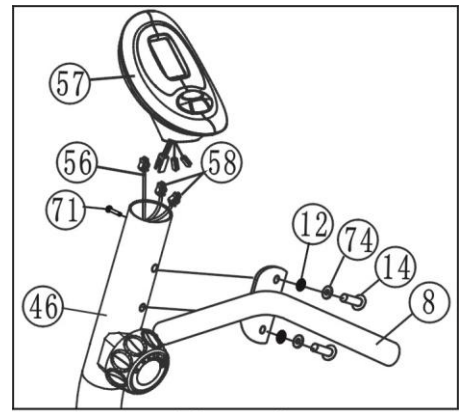

Figure 4
Connect the Computer wire (56) and the hand pulse wire I (58) to the wires that come from the Computer (57). Attach the Computer (57) to the top of Front upright tube (46). then tighten it with M5*10 cross-head screw(71). (See figure 4)
Attach the front handle bar (8) to the Front upright tube (46) with two sets of M8*20 bolts (14), Spring washer (74) and $\phi 8$ Arc washer (12) (See figure 4)